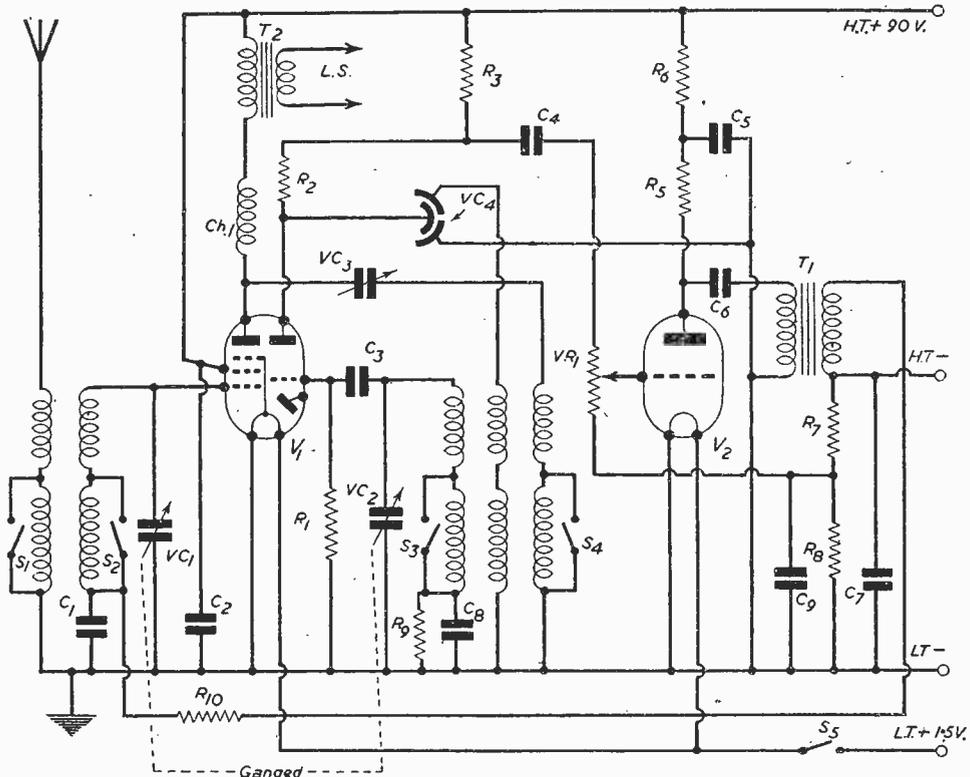

Fig. 2.—The arrangement of Fig. 1 with an additional stage and auto-bias.
A similar circuit is shown in the diagram of Fig. 2, but with the addition of a triode A.F. amplifier between detector and output.
**ADDITIONAL COMPONENTS REQUIRED Fig. 2**